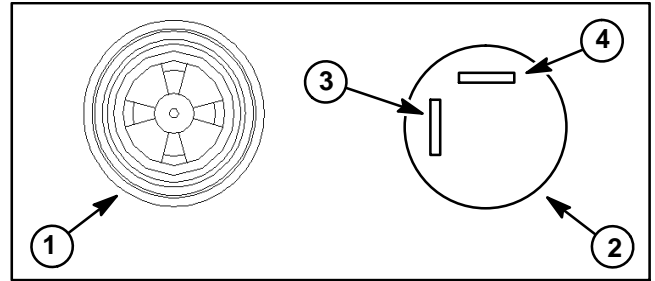

Figure 97
3. Disconnect wire harness connector from alarm. Correctly connect 12VDC source to the alarm terminals (Fig. 97). Alarm should sound.